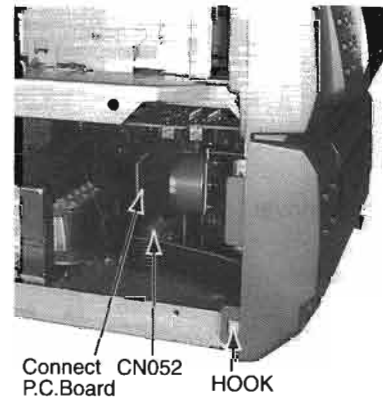

Fig 6
- 4.Disconnect the connect P.C.Board CN052 on the AMP.P.C.Board. (See Fig.6)